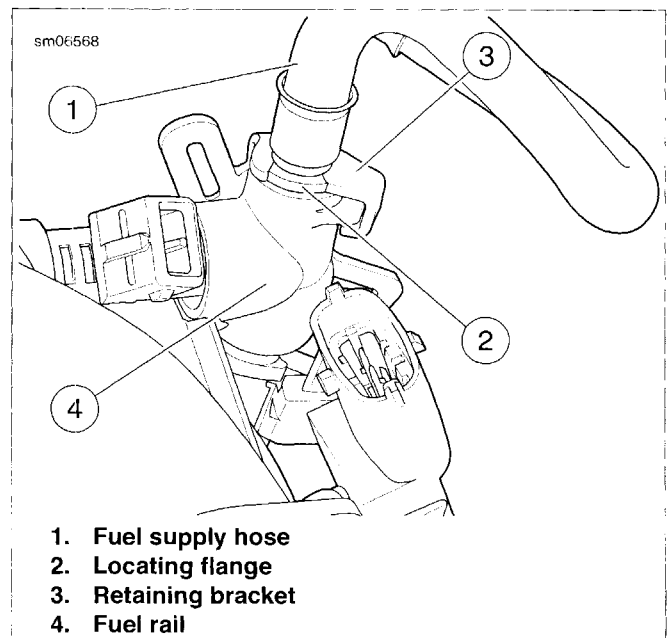

Figure 4-78. Mounting Fuel Hose and Fuel Rail (Typical: XL Model Shown)
The fuel supply hose must be oriented properly when installing the retaining bracket. See Figure 4-78.
- a. See Figure 4-78. Orient fuel supply hose so that locating flange (2) is positioned as shown.
- b. Install retaining bracket (3) so that U-shaped opening in bracket fits around fuel supply hose and locating flange as shown.